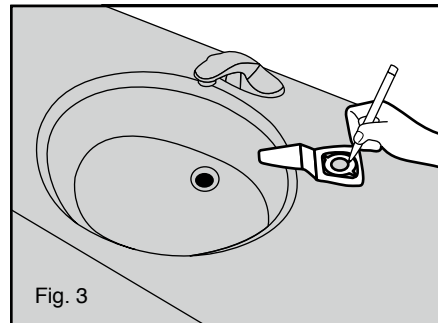

Fig. 3
4. Once the location is determined, trace the 1" diameter hole using a marker (see figure 3).